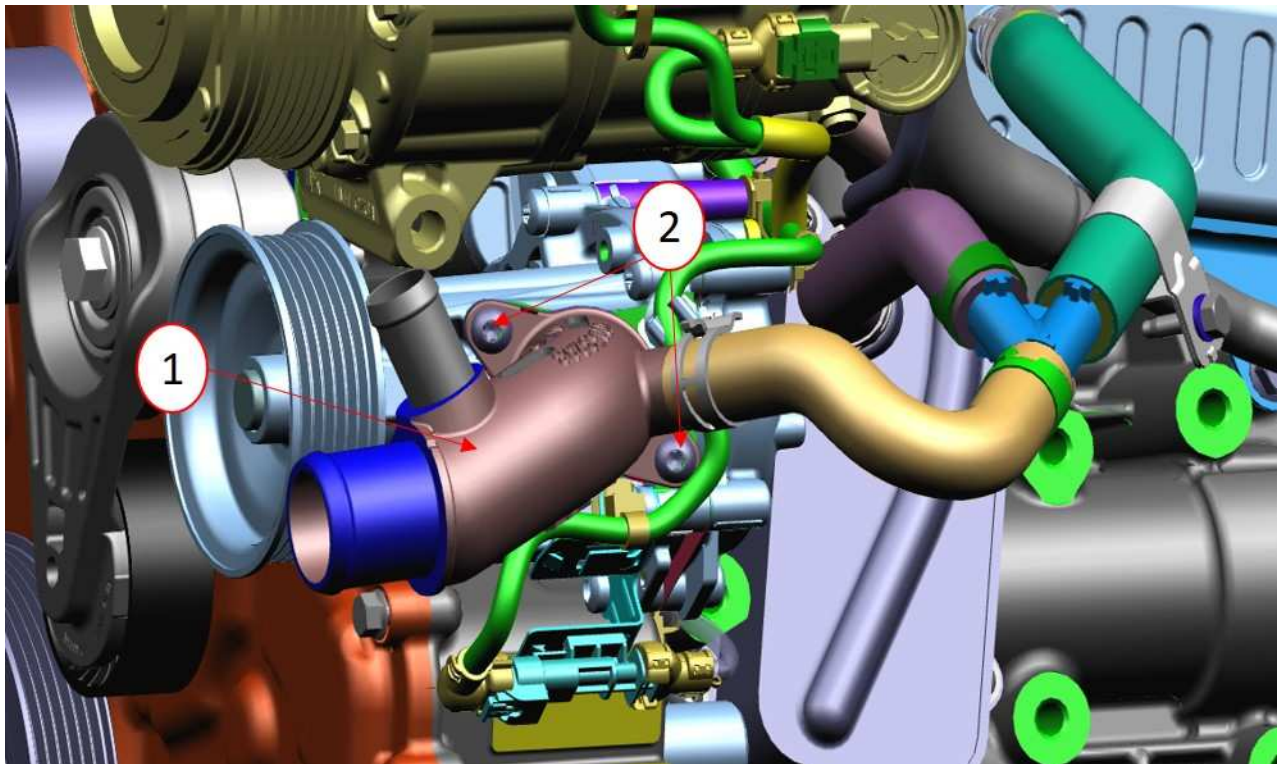

Fig. 1
2. Was coolant found to be leaking from the water pump inlet tube at the engine (Fig. 1) ?
1. Torque the water pump inlet tube fasteners to exactly 11 N·m (97 in. lbs) (Fig. 1) .
3. Is coolant still leaking from the water pump inlet tube at the engine (Fig. 1) ?